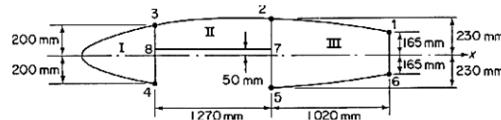

Figure 9
- (b) The wing section shown in Figure 9 has been idealized such that the booms carry all the direct stresses. If the wing section is subjected to a bending moment of 300 kNm applied in a vertical plane, calculate the direct stresses in the booms. [7M]